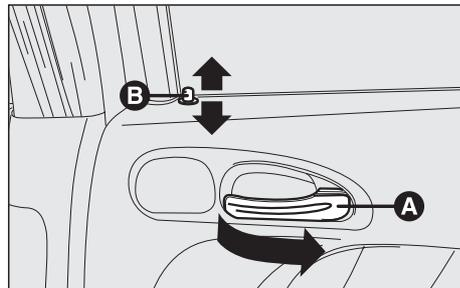

fig. 3
– To open the door pull the handle (**A-fig. 3**).
– To close, press the knob (**B-fig. 3**), also with the door open, then shut the door.